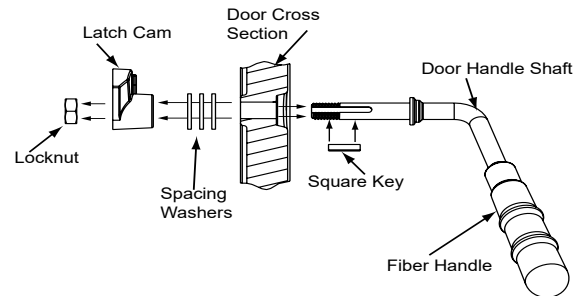

Figure 24.2
2. Install additional washer(s) as shown in **Figure 24.2**
6. Install fiber handle (**Figure 24.2**).